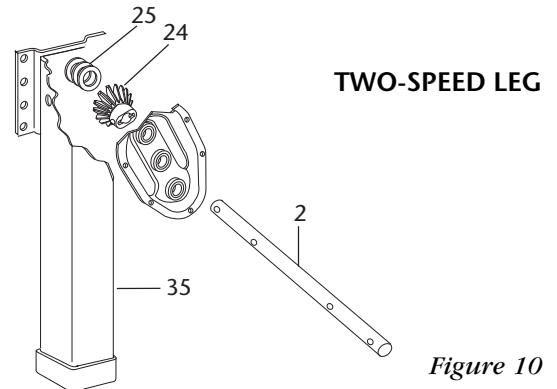
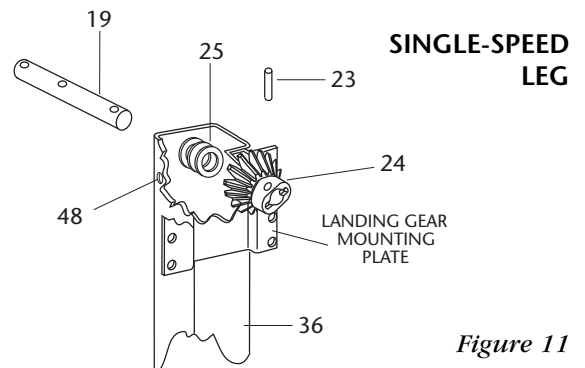

Figure 10
Figure 11
- Position the bevel pinion gear (*Item 24*) on top of the bevel gear. For single-speed legs the bevel pinion gear should be on the opposite side of the landing gear mounting plate, as shown in *Figure 11*. For two-speed legs, the bevel pinion gear should be against the mounting plate side of the landing gear, as shown in *Figure 10*.
- On two-speed legs, slide the drive shaft (*Item 2*) into the gearbox side of the outer leg (*Item 35*), through the bevel pinion gear, through any shims removed previously, and through the hole in the other side of the outer leg as shown in *Figure 10*.
On single-speed legs slide the bevel pinion gear shaft (*Item 19*) into the side of the outer leg (*Item 36*) opposite the landing gear mounting plate, through any shims removed previously, through the bevel pinion gear, and through the hole in the other side of the outer leg as shown in *Figure 11*.